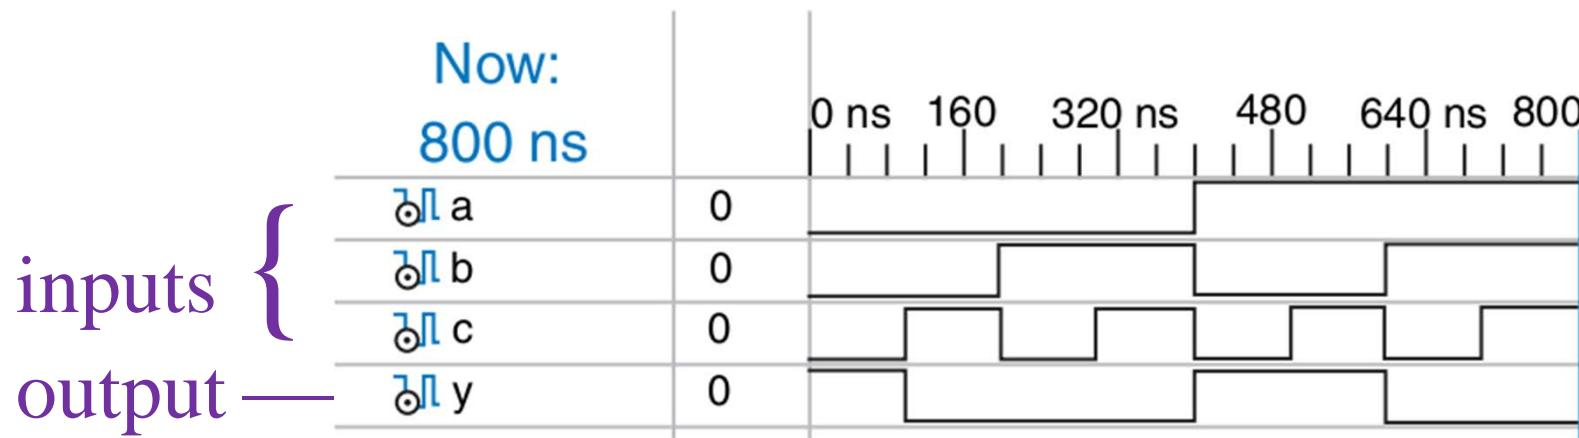

Figure 4.1 Simulation waveforms
- E.g.: Simulation waveforms (Harris, p.170, Fig 4.1)